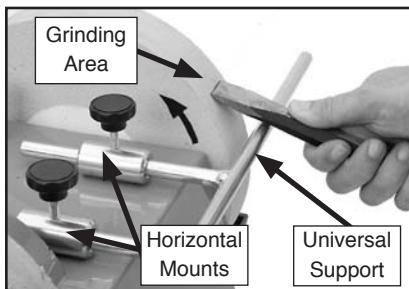

Figure 8. Horizontal mount.
3. Attach the universal support in the horizontal mounts as shown in **Figure 8**. Be sure it is securely positioned and will not move during grinding. Reconnect the machine to power.